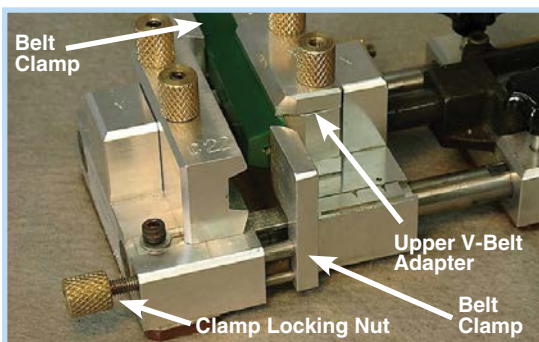

Fig. 33
1. Loosen the two Die Locking Nuts for the "X" Die. Lift the Upper V-Belt Adapter (Fig. 33) slightly and set the broad portion of the V-belt against the "X" Die. The belt end must be touching the Belt Clamp.